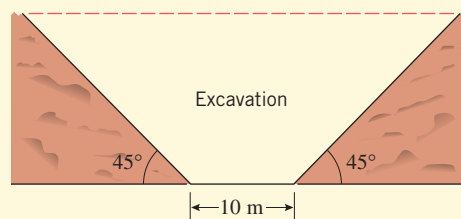
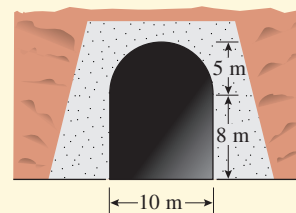

Figure 2
Figure 3
- From town A to point M and from point N to town B the track bed is to be created by excavating a trench whose vertical cross sections are trapezoids with the dimensions shown in Figure 2.
- Between points M and N your company must decide whether to excavate a trench of the type in Figure 2 or to excavate a tunnel whose vertical cross sections have the dimensions shown in Figure 3.
Assume that variations in elevation are negligible for short distances at right angles to the track, so that the cross sections of the dirt to be excavated always have the trapezoidal shape shown in Figure 2 (straight horizontal edges at the surface).